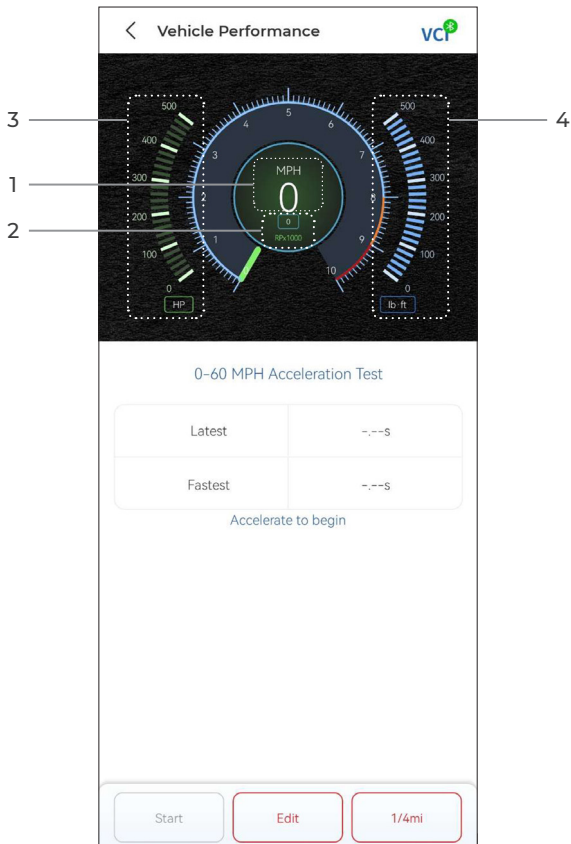

Figure 4-19
**0-60 MPH Test Results** - record the elapsed time for a vehicle to accelerate from 0 to 60 miles per hour (see Figure 4-19). The values for the start and end speeds can be changed if desired.